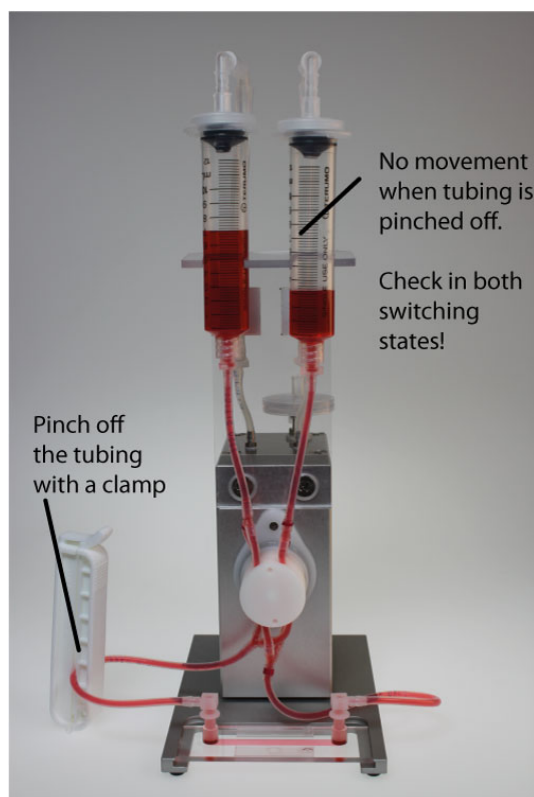

Figure 29: Pinch test for checking the correct insertion of the tubing into the valve.
2. Pinch the tubing in the lower loop near the Female Luer Coupler (Figure 29).